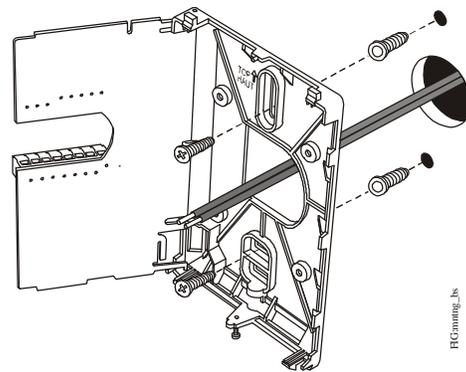

Figure 3: Securing the Mounting Base to the Wall (Example)
- Secure the base to the wall surface using two mounting screws as illustrated in Figure 3.